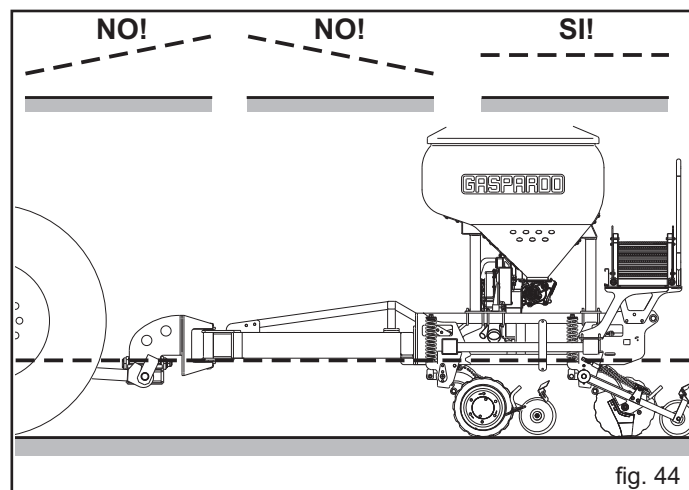

fig. 44
- 5) Make sure that the machine is operating with a horizontal frame (Fig. 44); only in that position can the machine load be equally distributed between the two series of seeding elements.